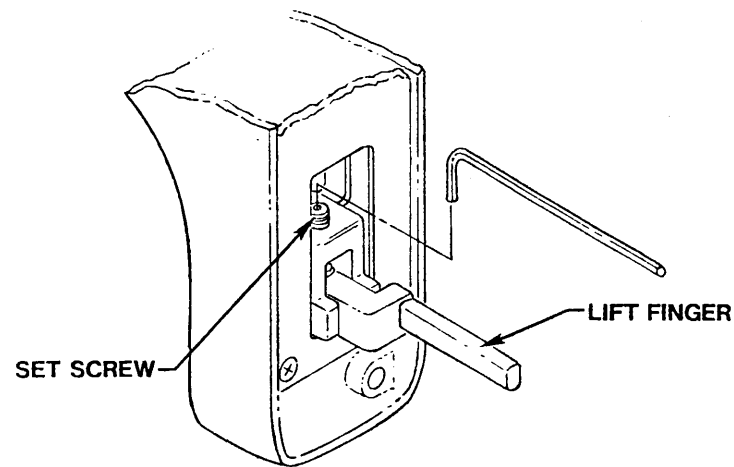

FIG.1
4. For 88 Mortise Device Lift Finger adjustment, see Fig.1. For 44 Mortise device, no adjustment required.